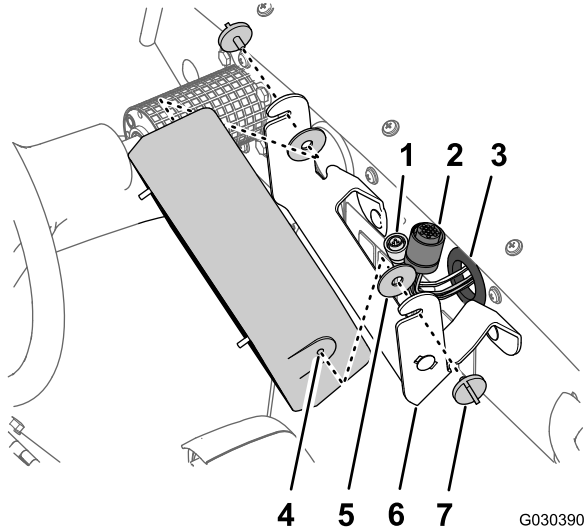

Figure 6
- 3. Remove the knobs at each side of the control console (Figure 6).
- 4. Remove the control console and the 2 rubber washers from the support bracket (Figure 6).
5. Push the harness, the 3-socket connector, and 16-socket connector through the grommet in the dash (Figure 6).